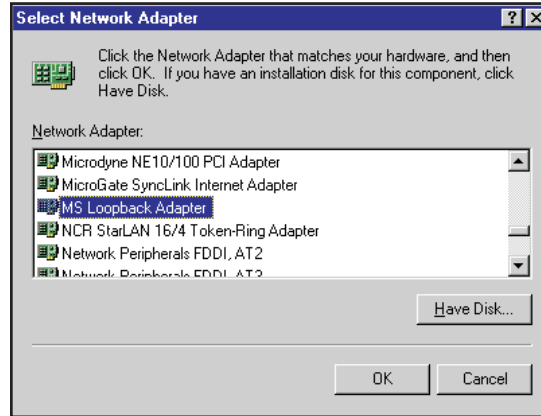

Figure 180 Select Network Adapter
2. Only two network components require installation for Genie 2000. First, a network adapter must be added. If your computer does not contain a network adapter card, then an MS Loopback Adapter must be added. Click on the Adapters notebook tab (this brings up the Network Adapters selection page); click on the **Add** button to bring up the dialog in Figure 180.